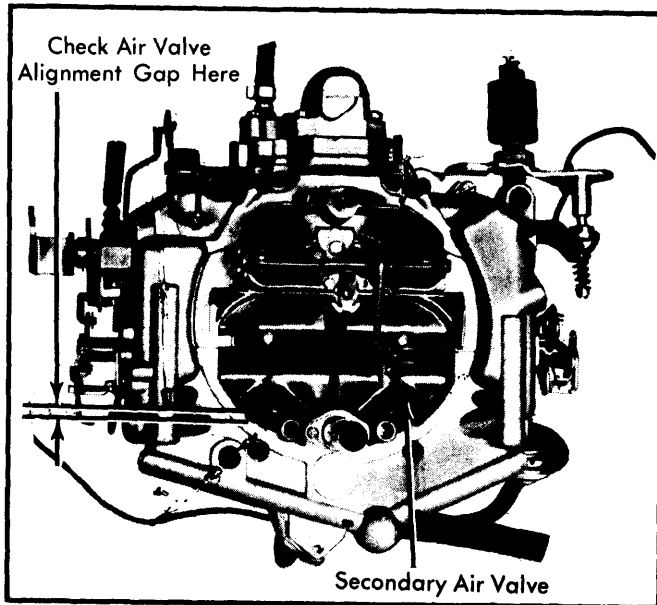

Fig. 3 Checking Secondary Air Valve Alignment
- 1) Observe carburetor from directly above. See Fig. 3.